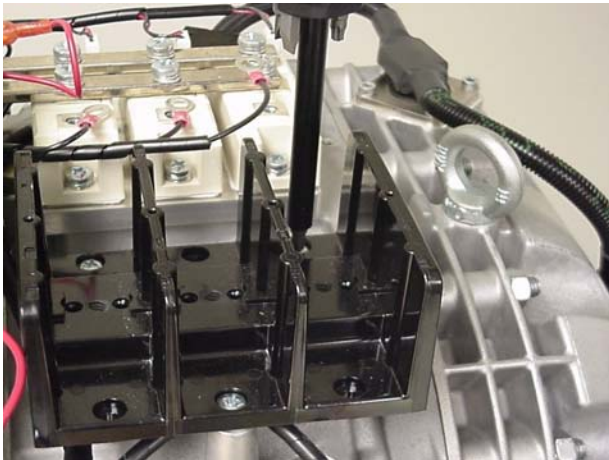

Figure 6-14 Removing the Terminal Block
4. Remove the three Phillips-head screws that secure the terminal block to the main housing; refer to Figure 6-14. Lift away terminal block.